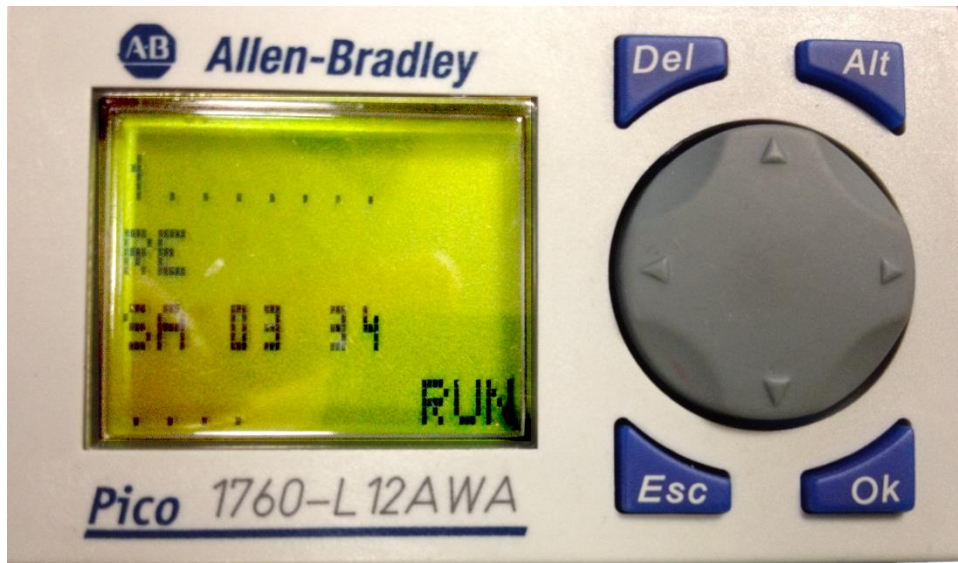

Figure 1. Main Screen A
4. Position the driver side and passenger side units in the general area where they will be installed according to figure 1, but **do NOT anchor at this time!**